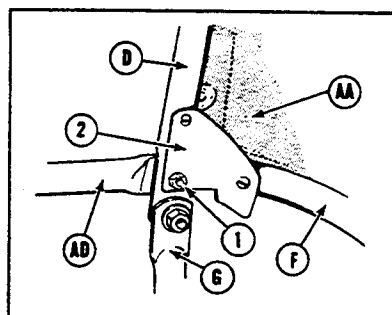

FIGURE 1
The present rope starting pulley, located on the side of the transmission must be removed and replaced with the generator drive pulley, V, Fig. 4, and the new shallow rope starting pulley, U, Fig. 4. Use capscrews, A, Fig. 1, and lockwashers for the re-assembly of these two parts to the transmission drive pulley.
The belt, B, Fig. 1, is then applied between
3. Bolt together (D), (F) and (U) on both sides as detailed in Fig. 1.
5. Now attach this canopy assembly to (G) on each side (Fig. 1), leaving the attaching bolt on (G).
6. Attach both front support members (B) to the inside front corners of (A) as shown in the exploded view.
2. Remove screw (#1, Fig. 1) and attach the rear end of member (AD) to outside as shown.
3. Repeat above step on opposite side, attaching member (AE) in a similar manner.
4. Remove nuts holding (B) to (H) and tilt whole canopy assembly all the way to the rear.
5. Thread member (AB) through channel in bottom part of front window section (AH).
6. Attach one end of each member (AC) to the lower front corners of (AB) through the openings at that point in the front window assembly (AH).
A. Stop plate tabs (#2, Fig. 1) must be properly lined up with the rear member so that it will not slip to the side. The purpose of these stop plates is to eliminate the possibility of interference between the rear counterweight and the cab when the cab is tilted to the rear.